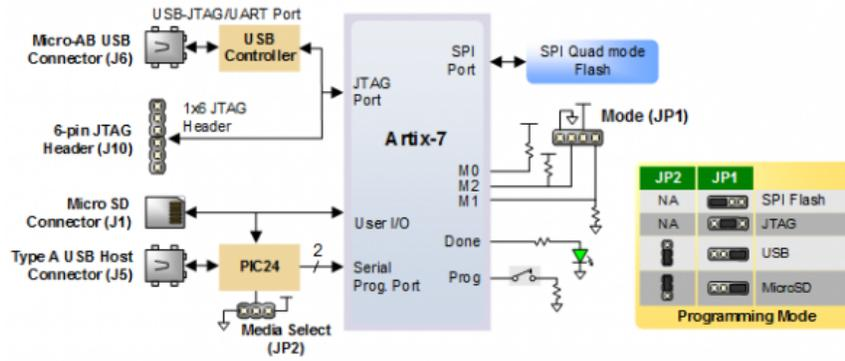

Figure 20: Settings for programming jumpers.
- There are two programming jumpers: JP1, located near the VGA port, and JP2, located approximately one inch (3 cm) below the power switch. Set both JP1 and JP2 to USB, as shown in Figure 20.